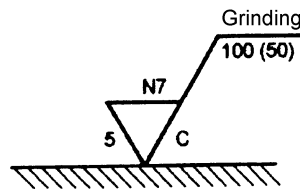

Fig. No. 1
- (f) State the meaning of symbol shown in Fig. No. 1